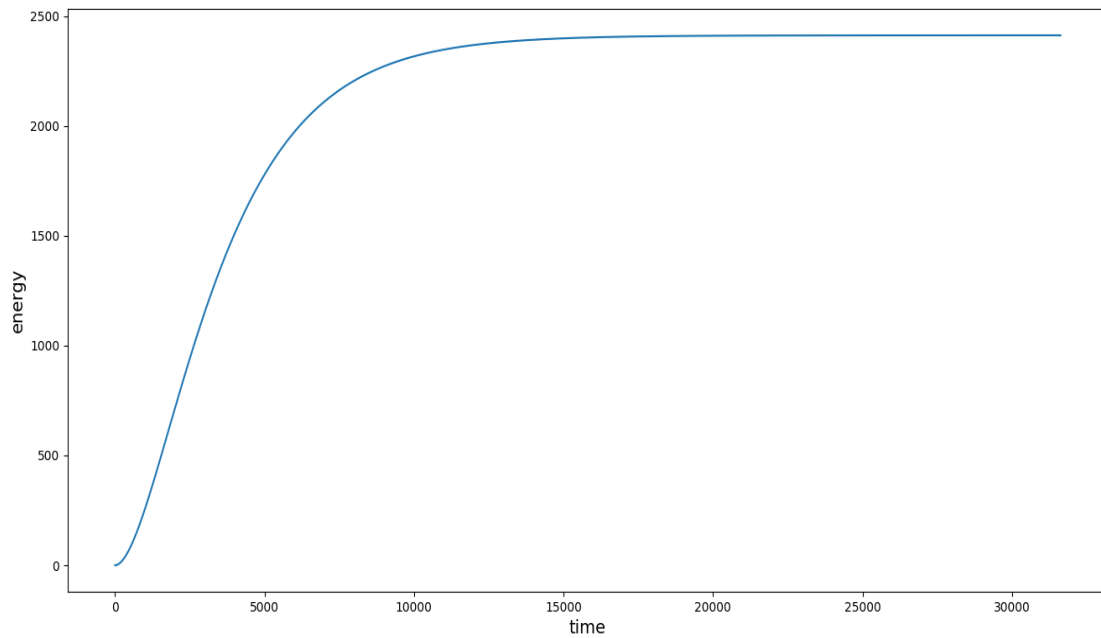

Figure 7: Energy with time upto steady state
- Figure 7. is plotted from the following equation for mass flow rate: